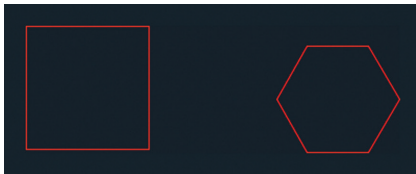

FIGURE 2.25 Drawing polygons
8. Type 1' (or 30 for metric) as the radius of the circle and press Enter. A hexagon fitting inside a 1' (or 30 in metric) radius circle appears (see Figure 2.25).